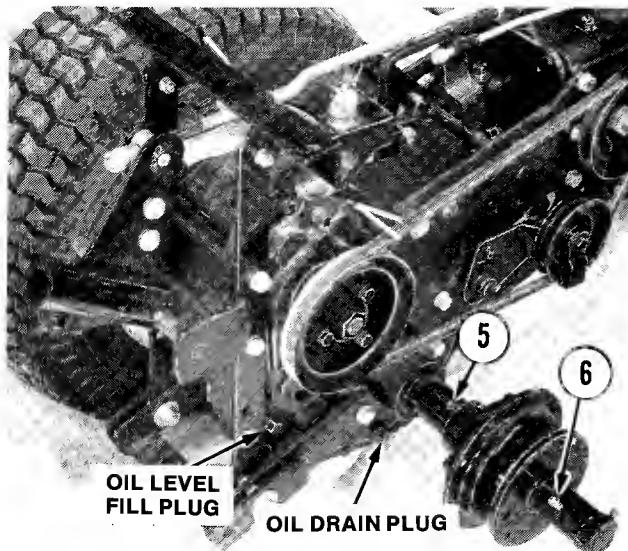

FIGURE 6 - R.H. Drive Wheel Removed
5. & Two fitting on the R.H. rear axle (Figure 6):